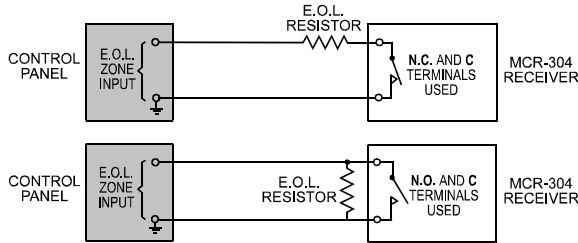

Figure 4. Using E.O.L. Resistors in the Relay Output Circuit
4.3 Wiring (Figures 4 through 7)
Note: If the control panel remote control zone input is defined as **E.O.L.**, use appropriate **E.O.L.** resistors (see Figure 4).